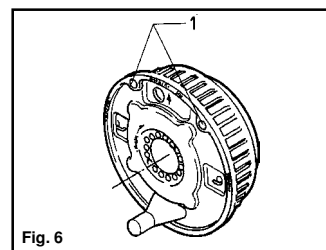

Fig. 6
**NOTE:** The hub bearing is not protected against water ingress. Check wheel brake linings for wear every 10,000 kilometers or every 12 months via the inspection hole (Fig. 6/Item 1).
months through inspection hole (Fig. 6) and adjust if necessary. Where continuous travel in hilly regions or high mileage is experienced, earlier inspection and adjustment may be necessary.